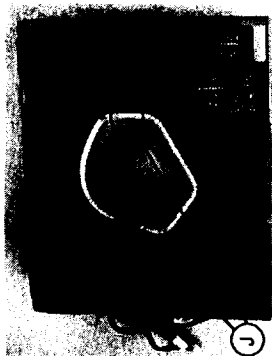

Fig. 5.
- (f) Unsolder the video shield tabs marked "J" as shown in fig. 5.